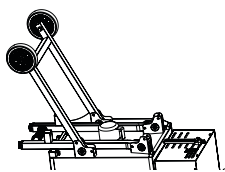

FIG. 3
2. Press push buttons in and unfold legs starting with the straight leg with wheels. Make sure all push buttons lock into place as shown in Fig. 3 and 4. Stand grill upright on solid level ground.